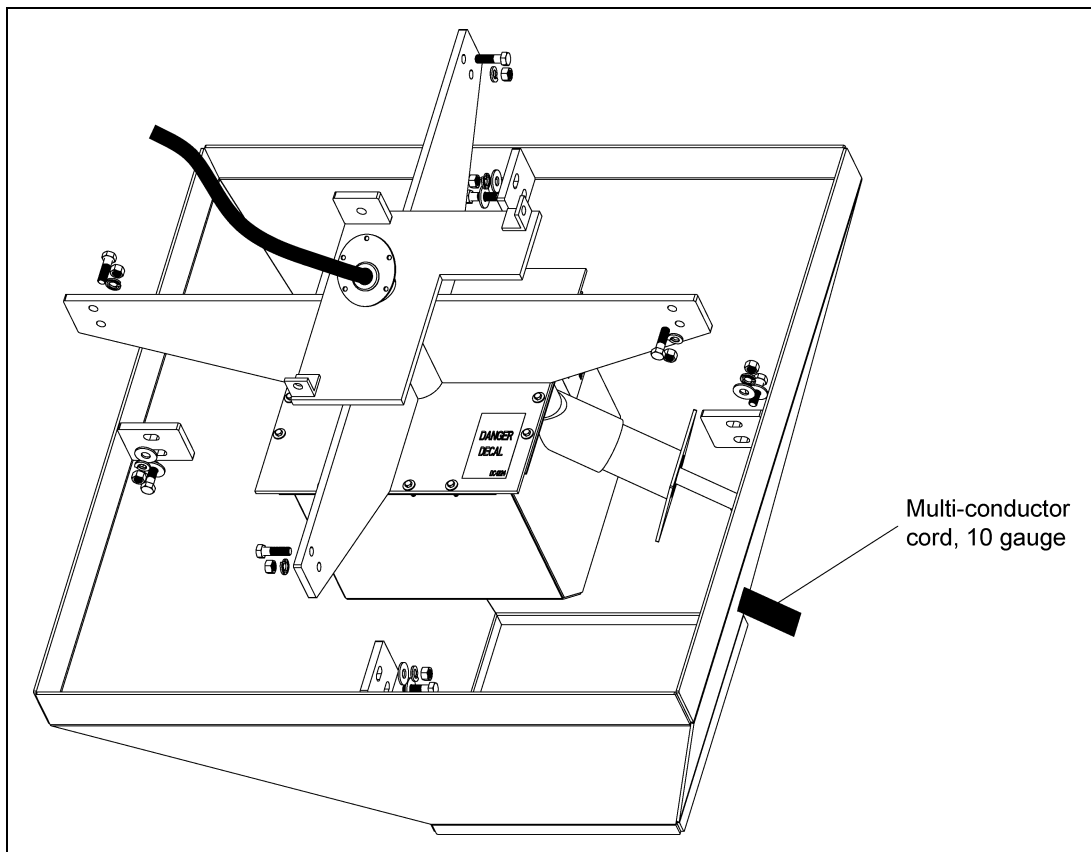

Figure 4E
- a. Wire the three (3) power leads to rings "3", "4" and "5".
- a. Wire the three (3) power leads to rings "6", "7" and "8".
17. Feed the multi-conductor cord through the slip ring shield and attach the slip ring shield to the cross brace assembly using sixteen (16) 1/4" x 1" hex bolts, flat washers, lock washers and nuts.
19. Slide the lower shroud assembly into the slip ring shield. *(See Figure 4E.)*